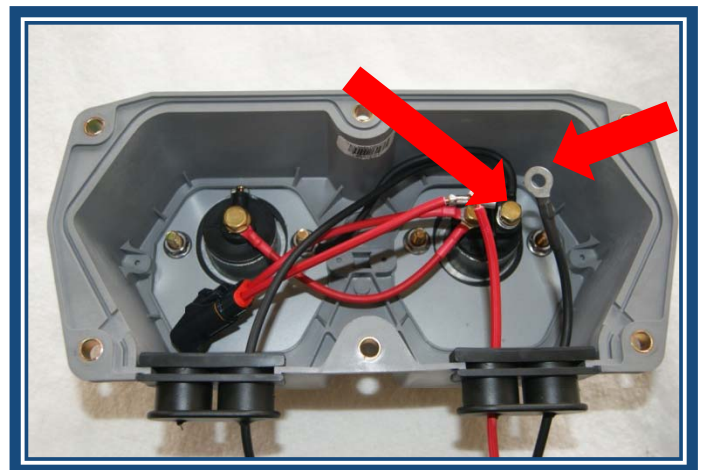

Figure 15
Step 15: Install the ¼" cable end to the black ground wire by stripping about ¼" of the insulation off of the wire, slide a piece of the included black heat shrink on the wire, then crimp and solder the ¼" eyelet onto the end of the wire. Slide the heat shrink over the connection and apply heat. Connect the ground wire to the negative side of the dual pole receptacle and tighten the bolt to specification. (See Figure 15)